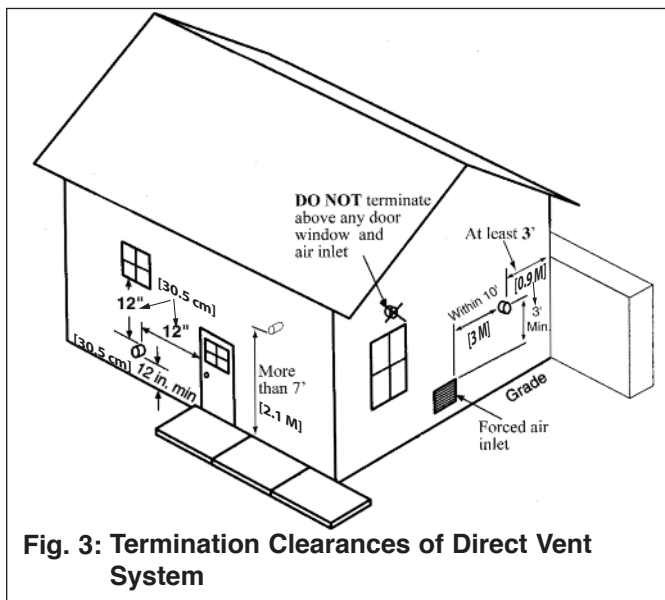

Fig. 3: Termination Clearances of Direct Vent System
6. The vent termination must also maintain the following clearances; as shown in Fig.3.
6. The vent termination must also maintain the following clearances; as shown in Fig.3, page 11.